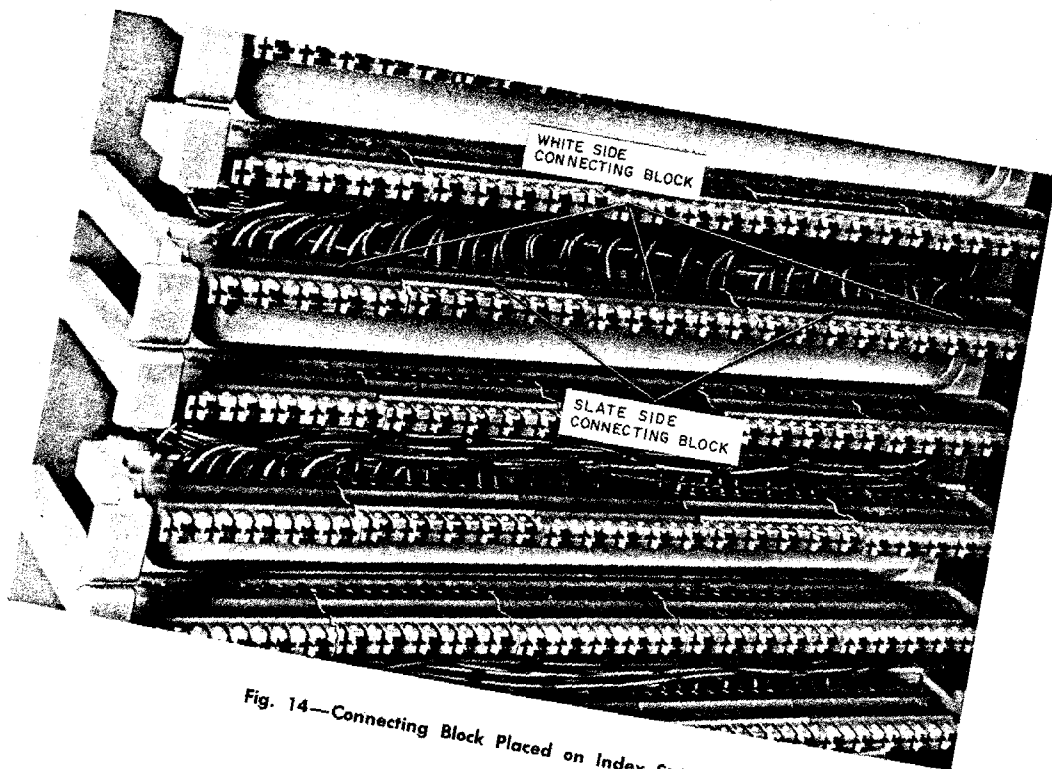

Fig. 14—Connecting Block Placed on Index Strip
5.02 The 88-type connecting blocks are white on one side and slate on the other. They are installed with alternate colors facing upward to aid in pair identification. Place the connecting blocks on the index strip, starting with the **white** side of the connecting block facing up at the extreme left, and alternating colors for the remainder of the setup (Fig. 14).